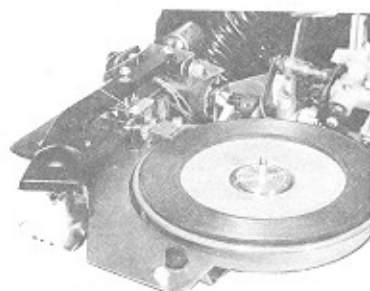

FIGURE 1-4. REMOVING MECHANISM TIE-DOWN
1. Remove shipping bolt from rear of cabinet as shown in figure 1-4